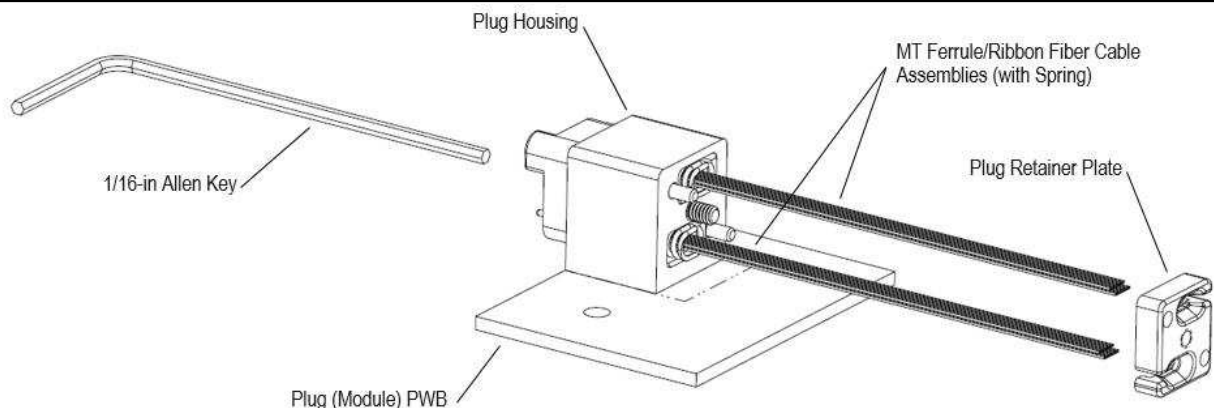

Figure 13
B. Plug (Module) Connectors (Figure 13)